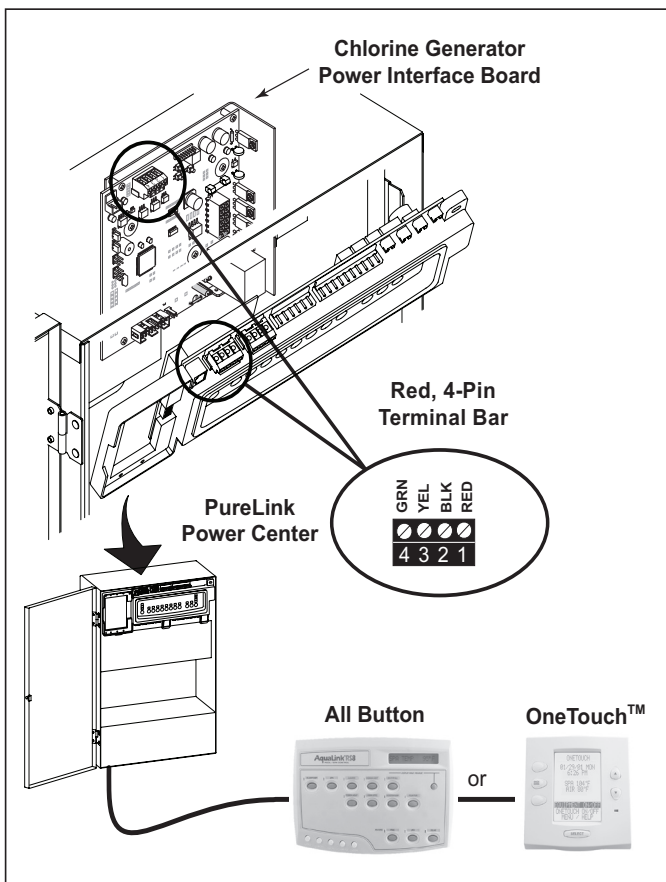

Figure 16a. Wiring a PureLink™ Control System Network
The chlorine generator electronics in the PureLink Power Center and the AquaLink RS controller require a four (4) wire connection to communicate. Any outdoor rated four (4) conductor cable, minimum 22 AWG, can be used. Locate the appropriate screw terminals on the circuit board according to Figures 16a and 16b. Wire the chlorine generator power interface board from the red 4-pin terminal bar to the AquaLink RS red 4-pin terminal bar (see Figure 16a).